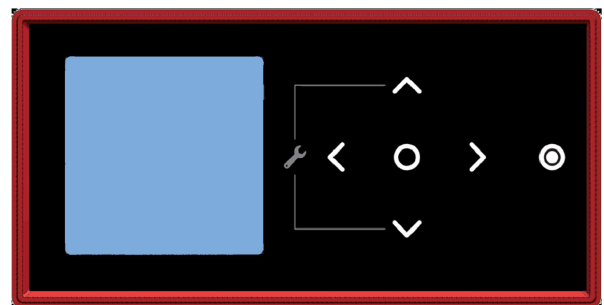

Fig. 6: CTRLMax Navigation Control
1. Press and hold the UP and DOWN buttons together see Fig. 6.
1. Touch simultaneously on the up and down soft keys for 3 seconds to access the functions for the installer. See Fig. 6.